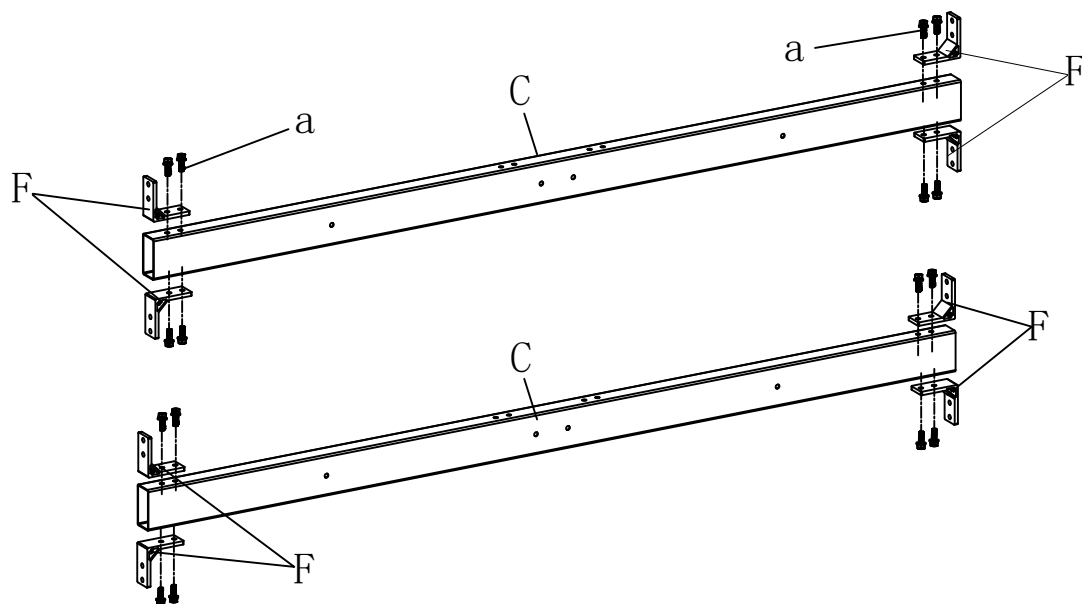

Figure 4
2.2.1 Take out the aluminum corner code, install it in combination with two crossbeams as shown in the diagram, and lock it with screws (a) on both sides for later use. (Figure 4)